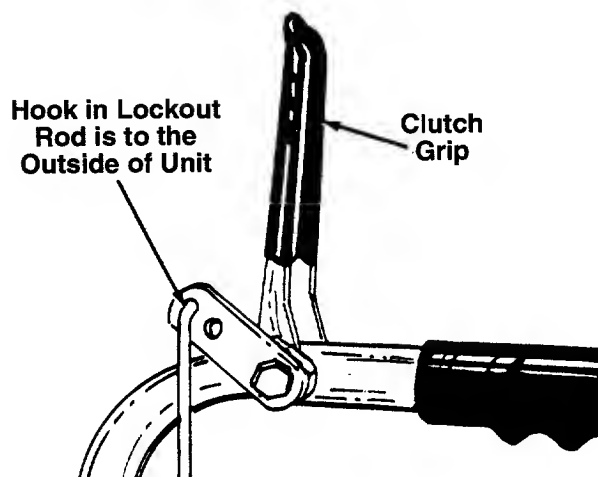

FIGURE 14.
20. Hook the right hand lockout rod into the top hole provided in the right hand clutch grip (auger clutch). See figure 14. Hook the left hand lockout rod (labeled "L") into the top hole in the left hand clutch grip (drive clutch). The hook is to the outside of the unit.